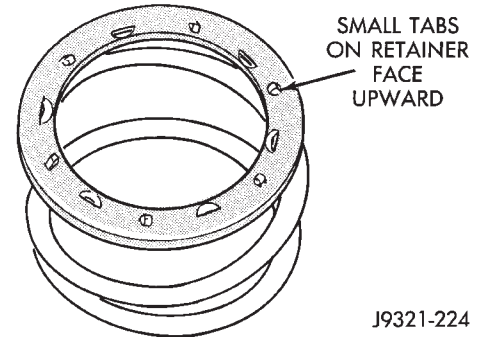

Fig. 138 Correct Spring Retainer Installed Position
- (6) Position spring retainer on top of piston spring (Fig. 138). **Make sure retainer is properly installed. Small raised tabs should be facing upward. Semicircular lugs on underside of retainer are for positioning retainer in spring.**